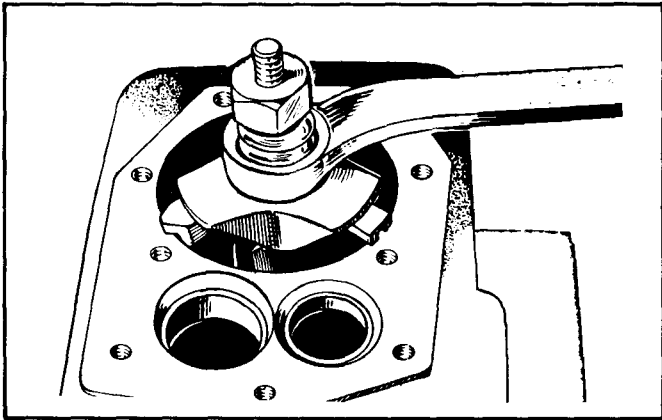

FIGURE 7. REMOVING RIDGE FROM CYLINDER
3. Remove the ridge from the top of each cylinder with a ridge reamer before attempting piston removal (Figure 7). Forcing the piston from the cylinder before reaming may cause damage to the piston lands.